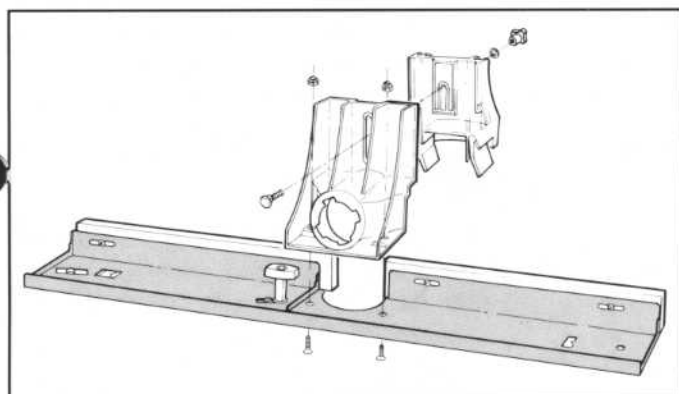

FIGURE 2
Attach the safety guard (F) to the housing, using the coach bolt (R), flat washer (P) and tri-knob (Q). **Figure 2.** Loosen the tri-knob, and check that the guard slides smoothly up and down for height adjustment. Tighten the tri-knob to secure the guard.